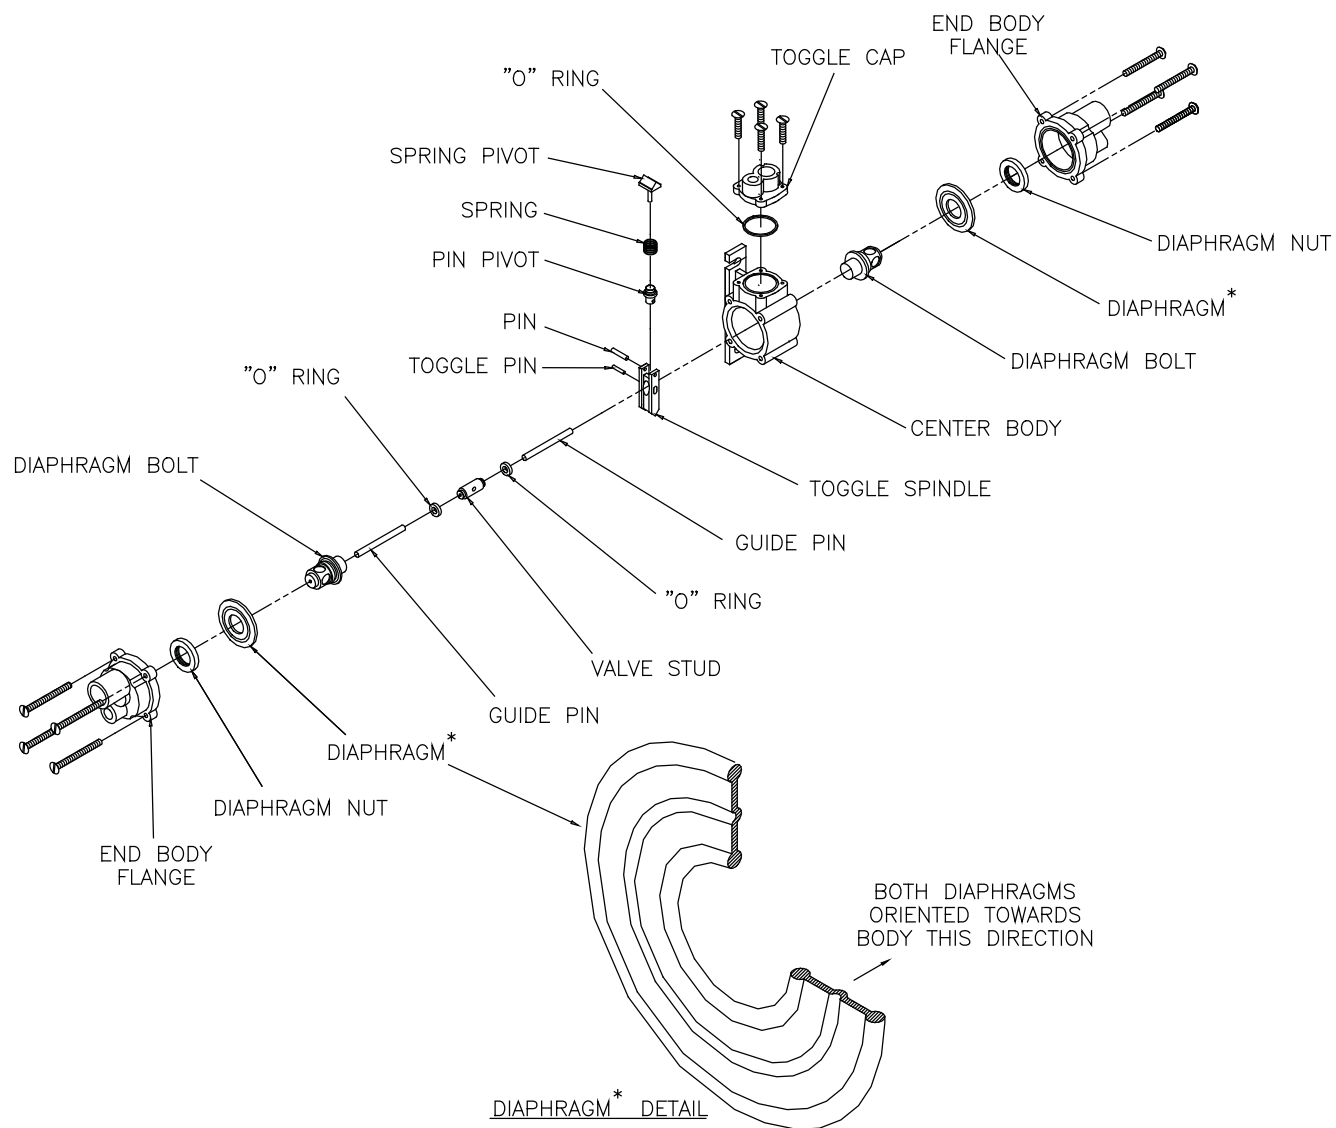

Figure 5 - 100 to 500 PPD (2 to 10 kg/h) Automatic Swichover Module Components
4.1 Cleaning the Module (Refer to Figure 5)